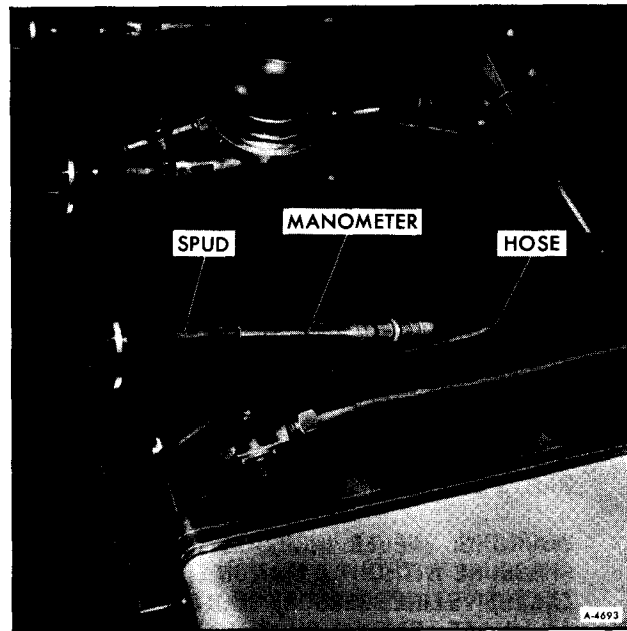

Figure 6—Manometer Connection to Spud
3. Remove screw holding right hand burner in place and remove burner (figure 5). Connect hose from one manometer elbow to right hand burner speed (figure 6). Position hose away from other burners. Turn one range top burner all the way on, with gas burning.